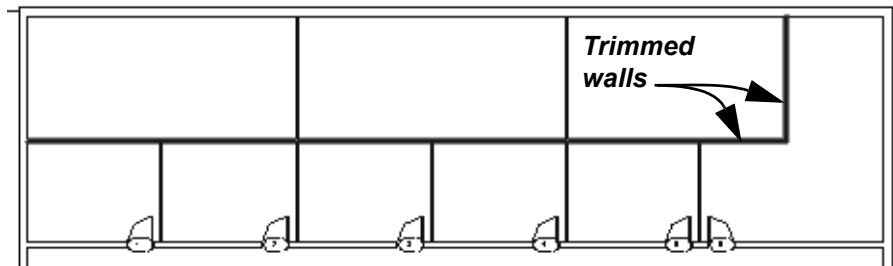

Figure 2–77
- In the *Modify* tab>Modify panel, click  (Trim/Extend to Corner) and select the two walls to trim as shown in Figure 2–77.